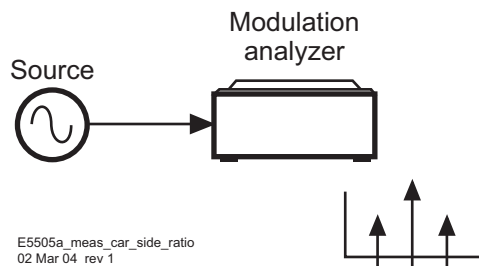

Figure 228 Measuring the carrier-to-sideband ratio
- 3 Measure the carrier-to-sideband ratio of the AM at the AM detector's input with an RF spectrum analyzer or modulation analyzer (Figure 228 on page 295). The source should be adjusted such that the sidebands are between -30 and -60 dB below the carrier with a modulation rate between 10 Hz and 20 MHz.